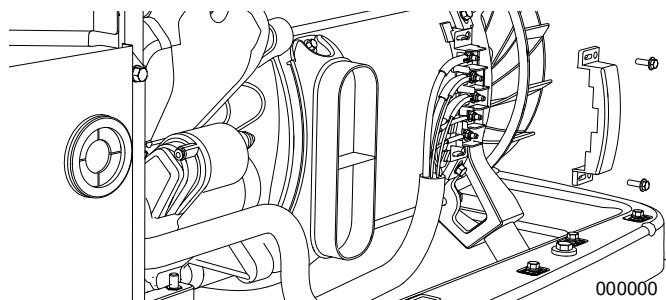
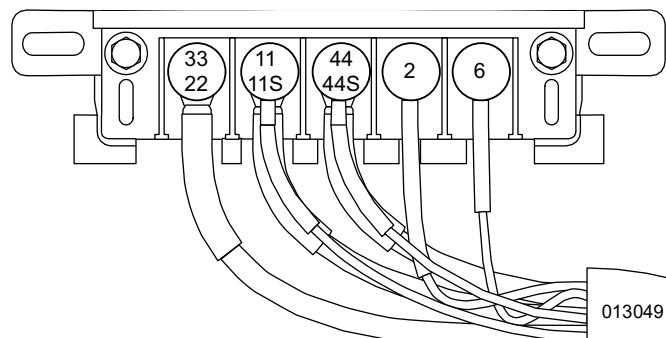

Figure 2-10. Stator Terminal Block Cover
Figure 2-11. Stator Terminal Block Wires
4. See **Figure 2-10** and **Figure 2-11**. Remove the stator terminal block cover and identify the studs containing Wires 11S and 44S.